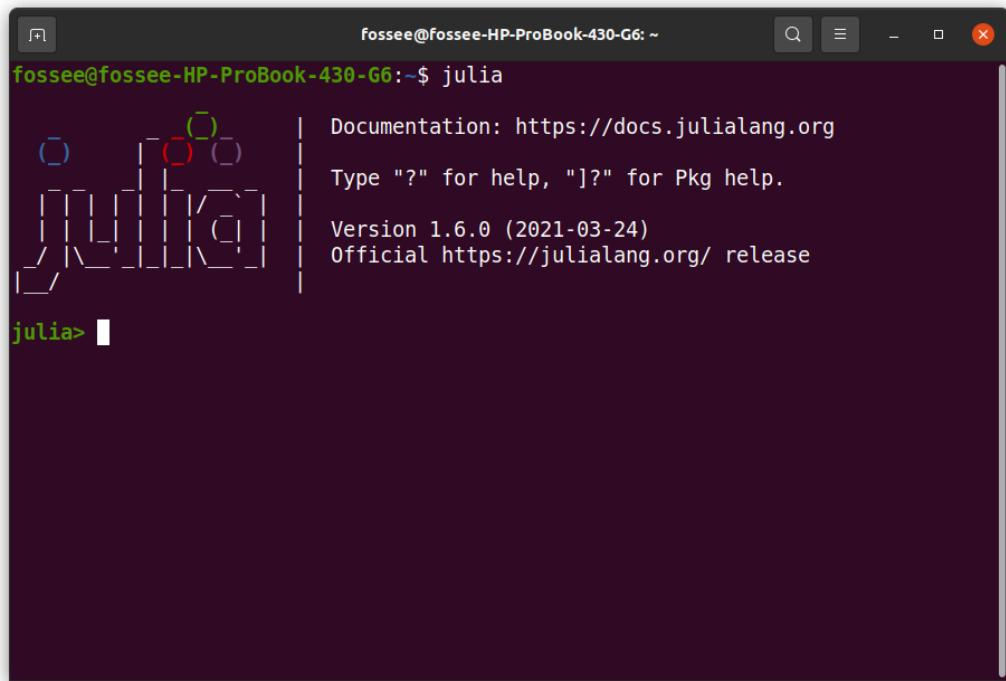

Figure 3.26: Linux terminal to launch Julia REPL
Julia is now installed and can be invoked from the Terminal. In the Terminal, type `julia` and press Enter. It should launch Julia in an interactive session (also known as a read-eval-print loop or "REPL"), as shown in Fig. 3.26. When run
in interactive mode, Julia displays a banner and prompts the user for input. By default, Julia REPL appears in Julian prompt. It is the default mode of operation; each new line initially starts with **julia>**, as shown in Fig. 3.26. It is here that you can enter Julia expressions. Hitting return or Enter after a complete expression has been entered will evaluate the entry and show the result of the last expression.
1. Launch Julia in interactive mode, as shown in Fig. 3.26.
We can also check the status of this package to verify whether it has been installed successfully or not. For this, we need to get back to Julia REPL. Inside **Pkg** REPL, press backspace. The moment you press backspace, you get back to Julia REPL, as shown in Fig. 3.26. Now, type **using Pkg** and press Enter. This command will not generate any output. Now type **Pkg.status()** and press Enter. It should display the list of packages installed in Julia's environment. Please make sure that **LibSerialPort** is present in the list of packages being shown. To exit the interactive session, type **CTRL+D** or type **exit()**.